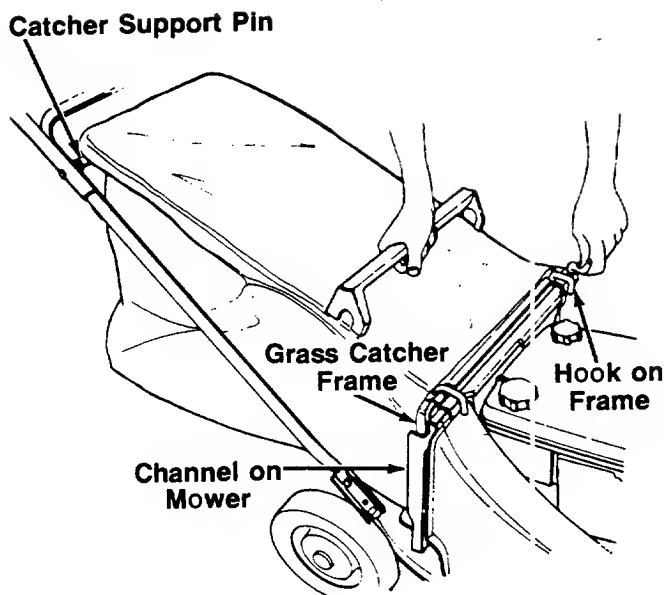

FIGURE 16.
1. Hold the chute door on the catcher panel open as shown in figure 16.
2. Slide the frame of the grass catcher down into the channels on each side of the mower. The hooks on the frame go over the panel on the discharge chute. See figure 16.